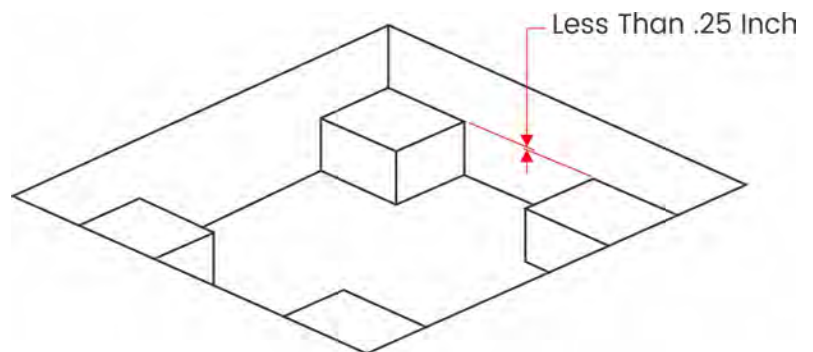

Figure 2
3. The difference in elevation between foundation piers should not exceed 0.25 inch (6 mm). See Figure 2. The leveling feature in Vibro/Dynamics Isolators will compensate for any remaining difference.